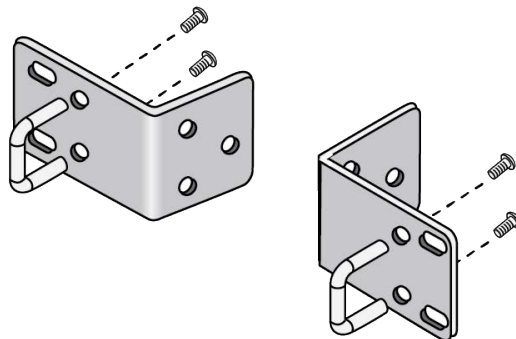

Figure 39. Attaching the Handles to the RKMT-J13 Brackets
3. Attach the handles to the RKMT-J13 brackets with the four 3x6mm screws included in the kit. Attaching the handles is optional. Refer to Figure 39.